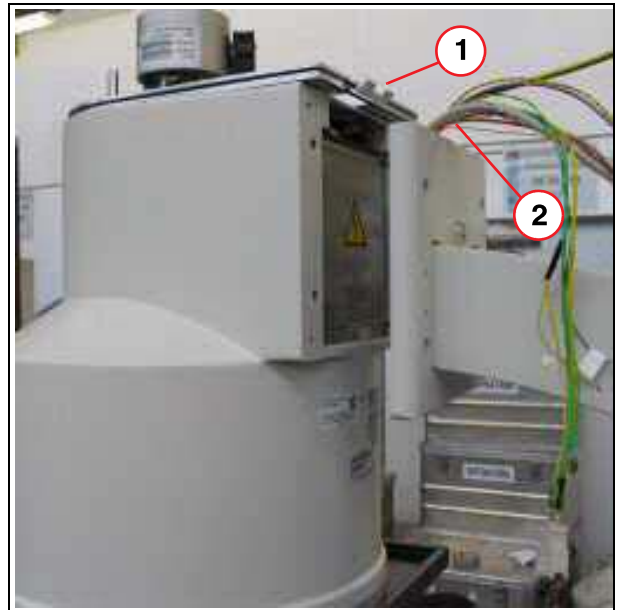

Fig. 21: I.I._mount
10. Remove the cable clamp (1/Fig. 21 / p. 45) and pull out the cables (2/Fig. 21 / p. 45).